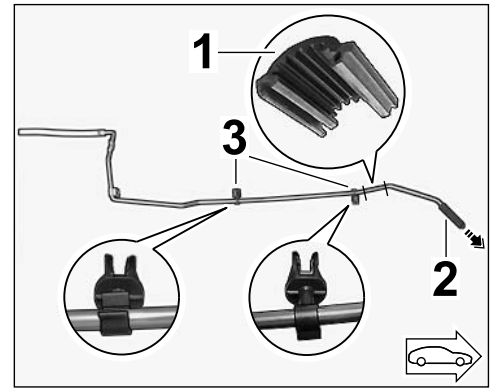

Figure 10
- Fit toothed ring B5.2 x 18 x 40 (anti-chafing element) in the specified area (⇒ *Figure 10*) on the control line.